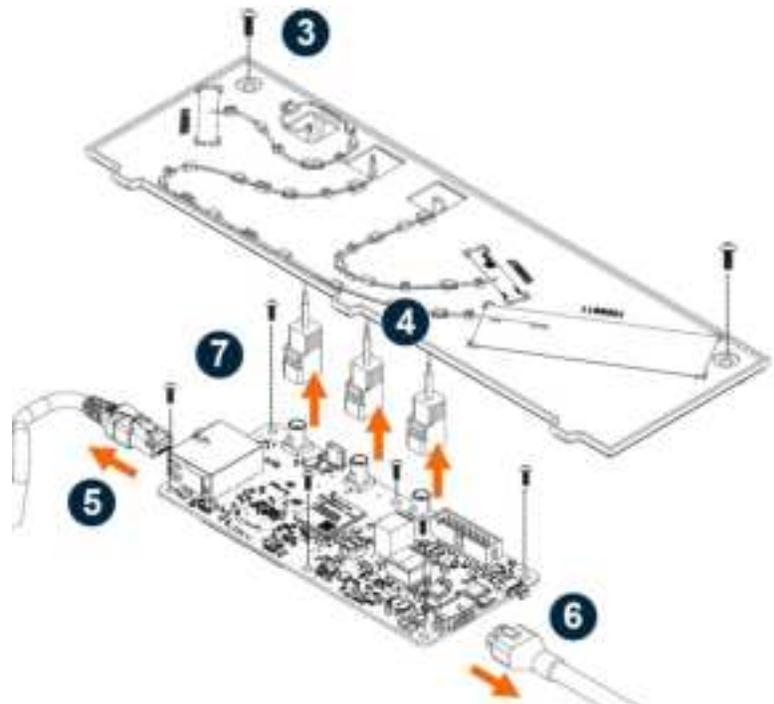

Figure 2. Remove existing gateway
3. See **Figure 2**. Put on ESD gloves, then remove two screws holding antenna board.